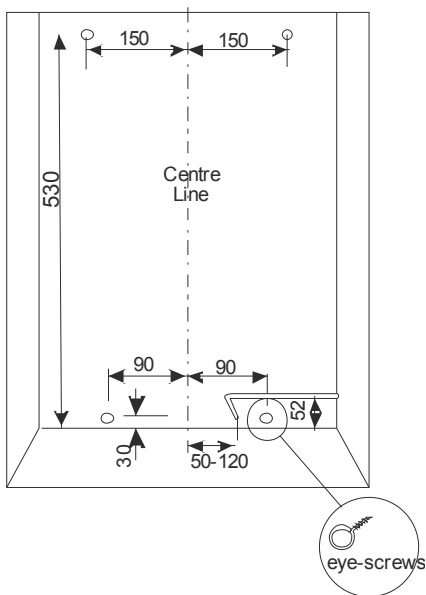

Figure 73
2. Mark out, drill, plug and fit the four eye screws onto the rear wall of the fireplace opening as shown in **Figure 73**.
4. Install the gas supply within the opening using rigid or semi-rigid tubing allowing for rear entry into the fire box (See **Figure 73**).